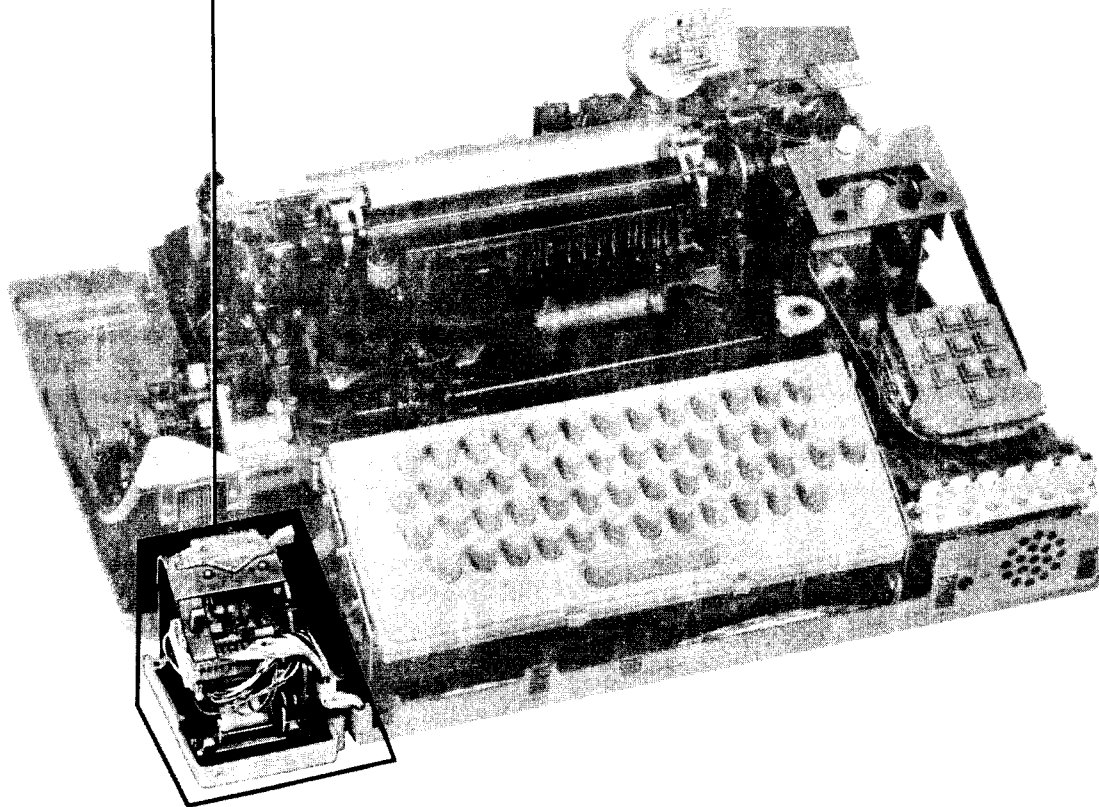

Figure 1 - Tape Reader Area
1. 14 There are two areas in which tape reader adjustments and spring tensions are found. As aids in locating the areas, Figures 1 and 2 are provided. They indicate the areas as follows: